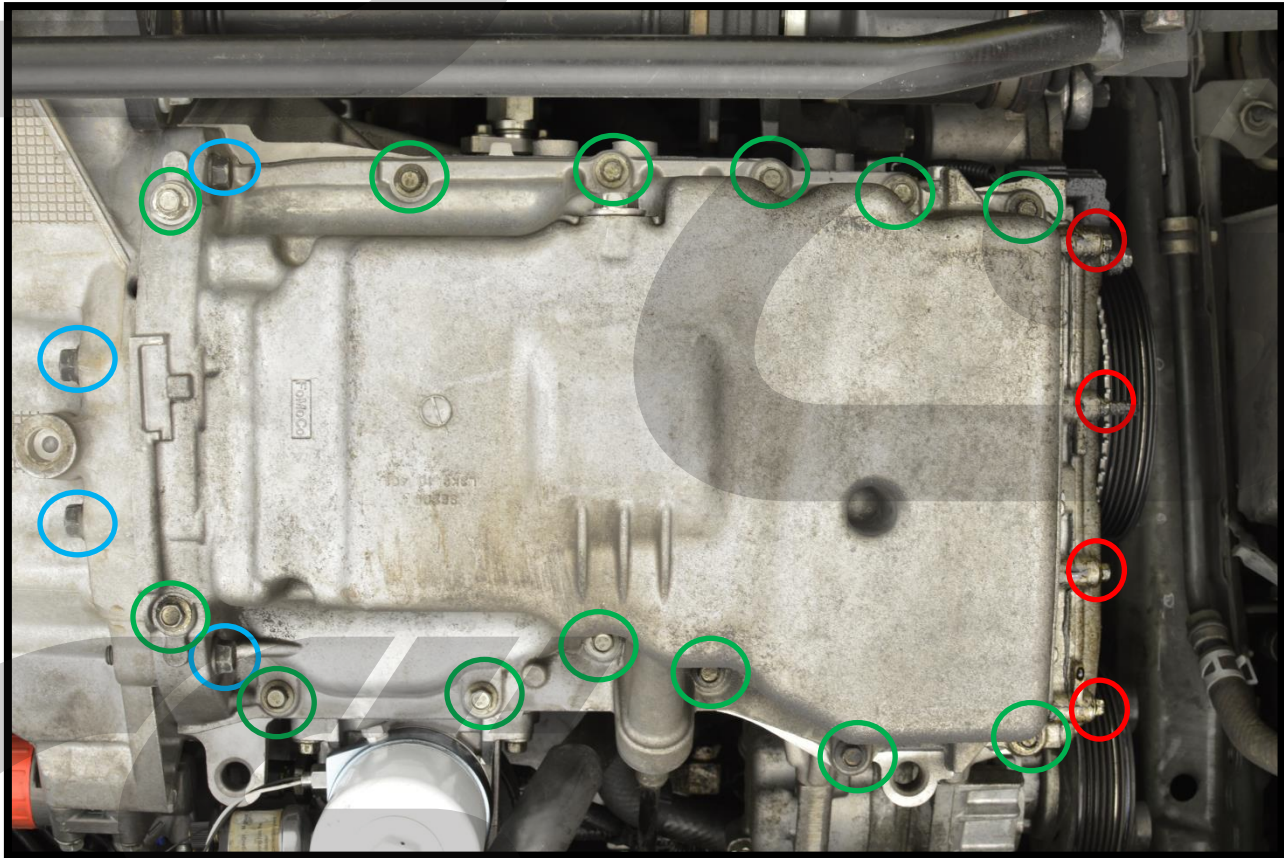

Figure 3c
- d) Remove four (4) 8mm bolts from the bottom of the timing cover. **Circled in red** in Figure 3c.
- e) Remove four (4) 14mm bolts from the transmission. **Circled in blue** in Figure 3c.
- f) Remove thirteen (13) 10mm bolts from around the edge of the oil pan. **Circled in green** in Figure 3c.